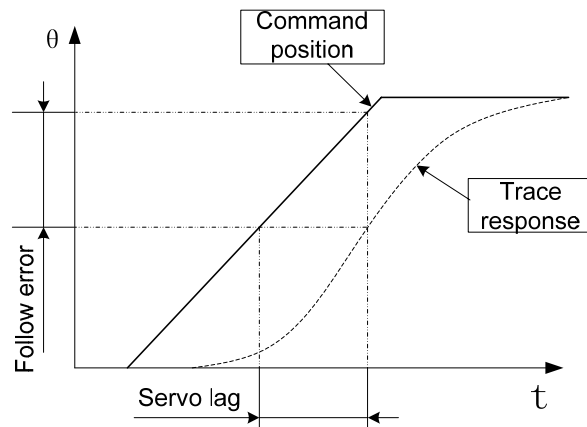

Figure 1-8 Position servo static curve
**Servo static performance:** The most important for a servo control system is its stability. The key static performance index of servo is positioning accuracy, which refers to the degree of deviation of the actual state from expectation at the end of the system transition. The steady-state accuracy of servo is subject to the error of position measuring appliance and system error and is related to the structure and parameters of the system. Figure 1-8 is a position servo static curve graph.